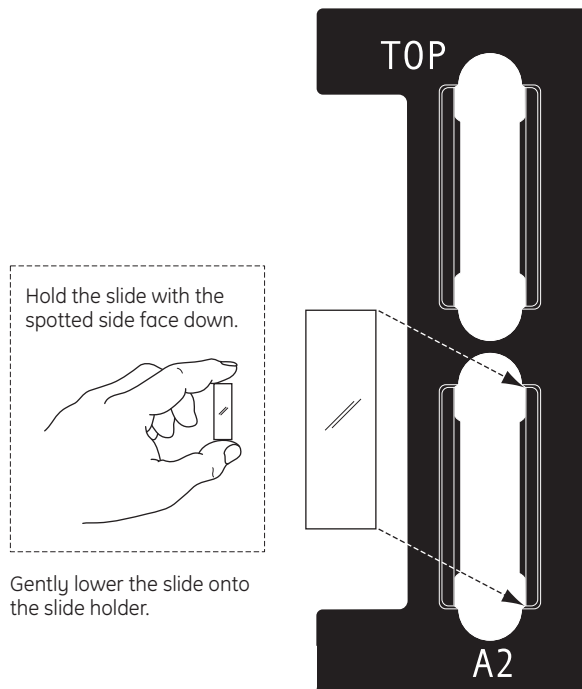

Fig 8-5. Positioning the slides in the slide holder.
- 4 Holding the slide with the spotted side face down, carefully lower the slide into the first well on the slide holder as fig 8-5 shows. (If you are scanning only one slide, positioning the slide in the first well minimizes the scan time.)